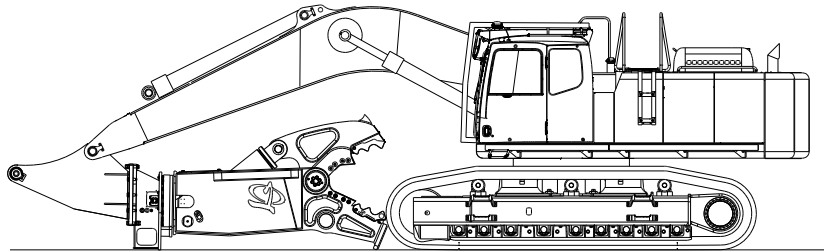

Figure 3-3
4. With the jaws of the attachment facing the excavator, bring the excavator into position, carefully lining up the excavator boom tip with the boom pivot connection on the attachment mounting bracket (see Figure 3-3).